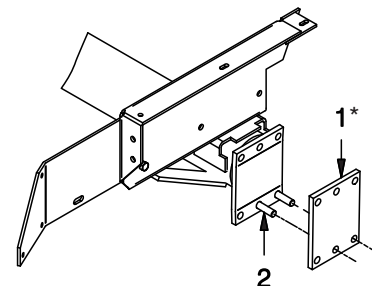

Figure 1 - Mounting Spacer
A. Place (2) of R13807958 bolts through the axle as shown in Figure 1. Place (1) F000007636 Spacer as shown in Figure 1.